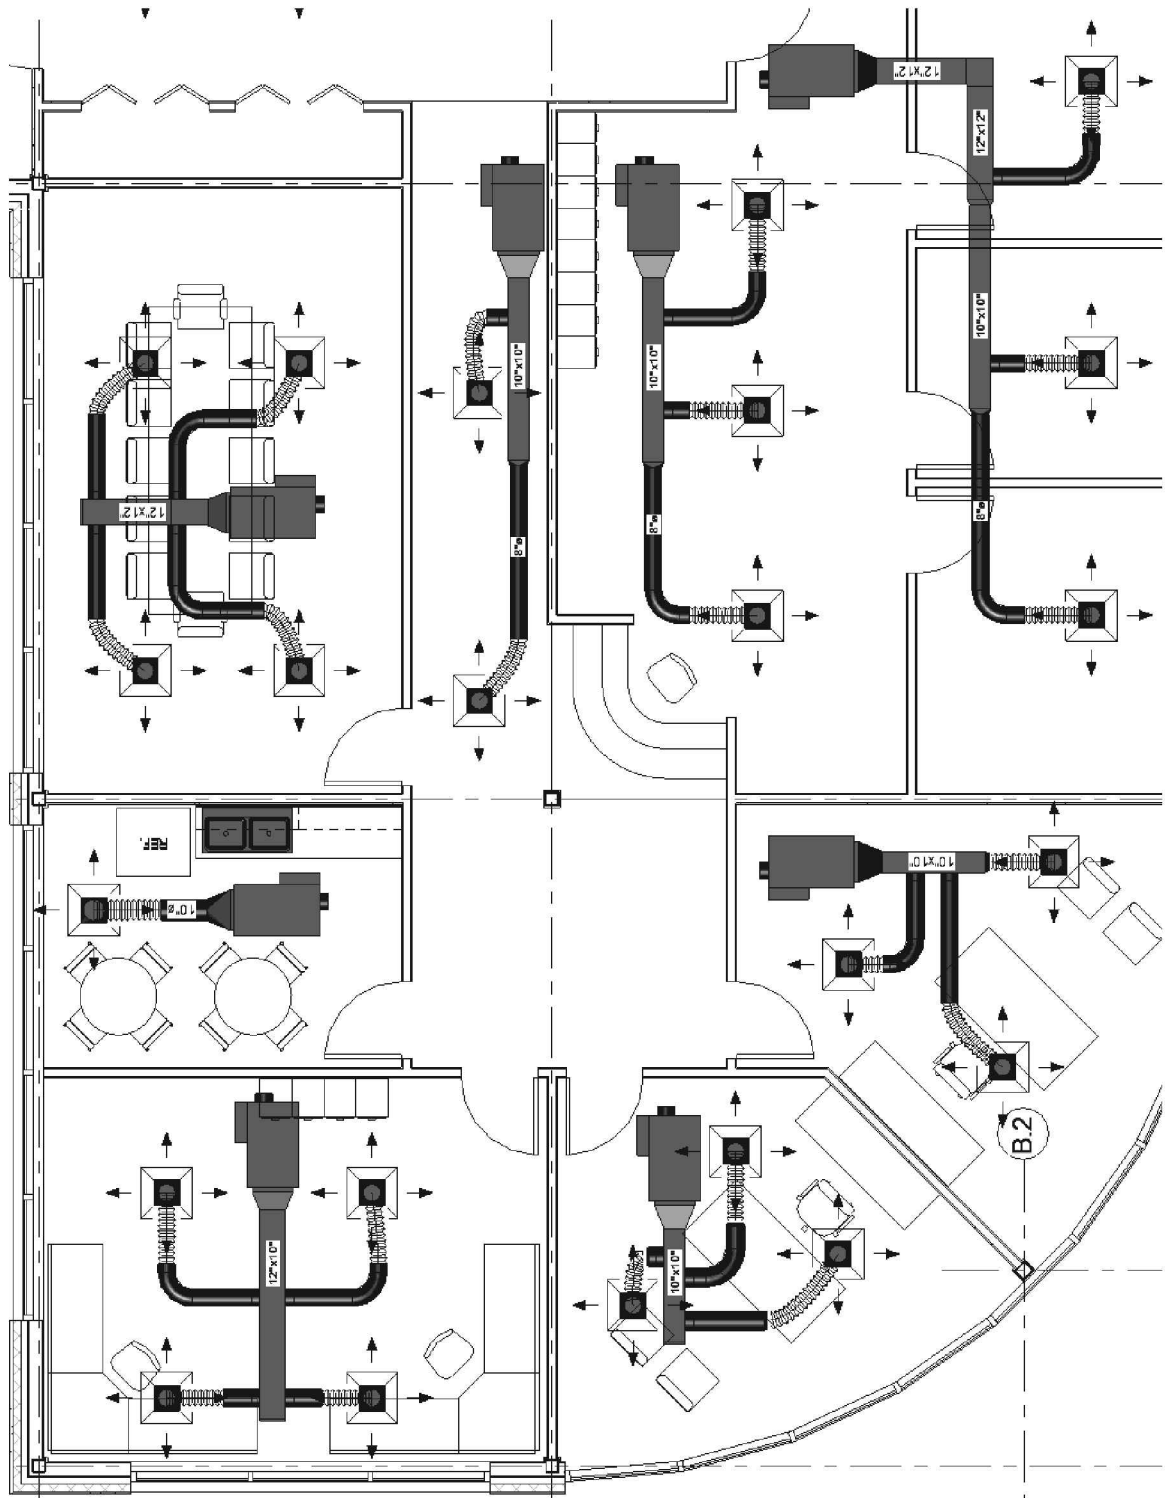

FIGURE 13-4.16 Ductwork added from each VAV box to the diffusers
- a. Reference Figure 13-4.16.